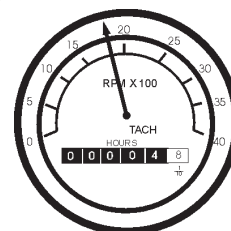

Figure 48. Engine Tachometer Gauge
- The **tachometer gauge** (Figure 48) will indicate the speed of the engine when the generator is operating. Under normal operating conditions this speed is approximately 1800 RPM's.